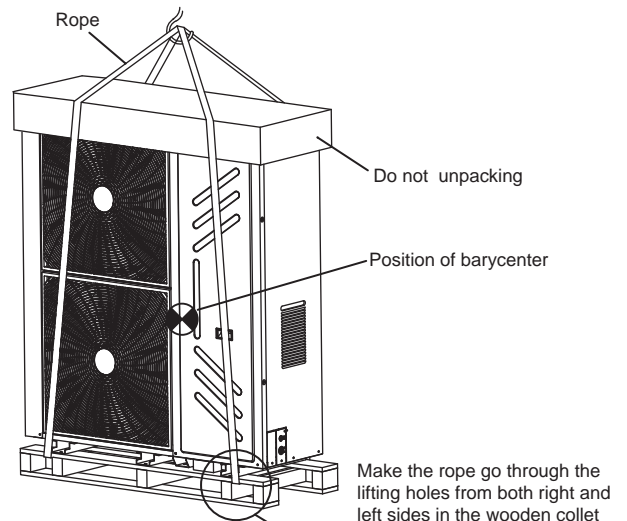

Fig.4-5
- 2) Keep the unit vertical when moving and handling. If the unit barycenter is not at the center of the unit, do not lean it more than 30°. Refer to Fig.4-5. Be careful during moving and lifting .